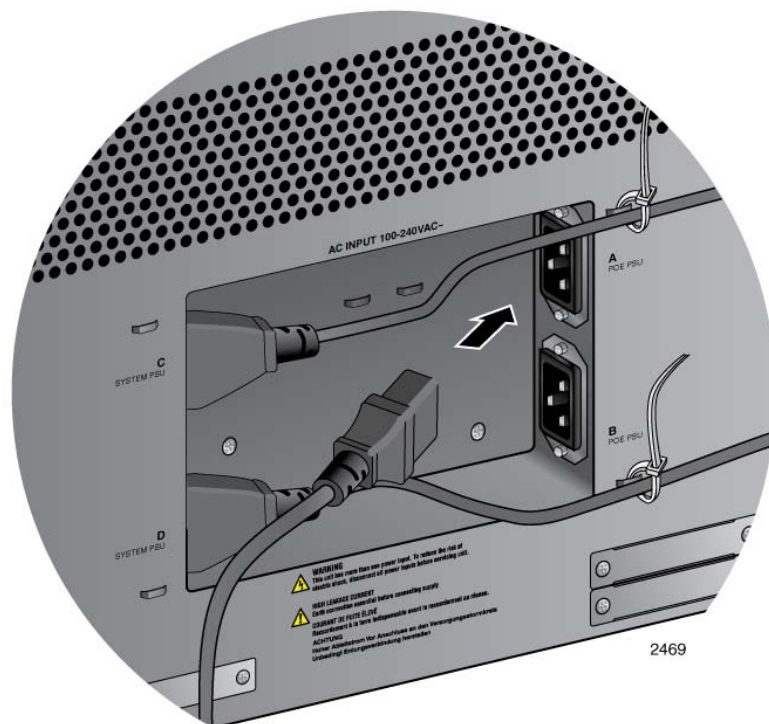

Figure 92. Connecting the AC Power Cord for the AT-SBxPWRPOE1 Power Supply
2. Plug the AC power cord that comes with the power supply into one of the plugs, as shown in Figure 92.